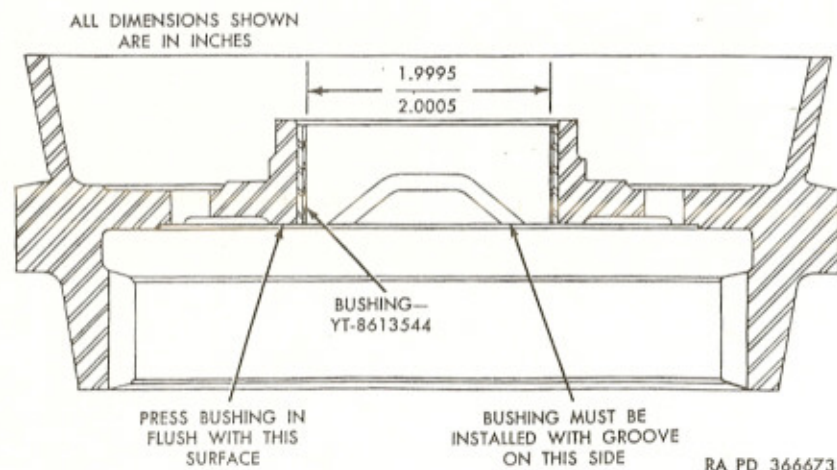

Figure 141. Sectional view of reverse internal gear and bushing.
- (5) *Reverse internal gear assembly (R)*.
- (b) Check bushing in gear hub for wear (par. 164) or damage. If necessary to replace bushing, press bushing out. Press new bushing into place and finish to dimension shown in figure 141. Be sure groove in bushing is toward gear teeth as shown (fig. 141).
- (6) *Reverse clutch stationary cone (R)*.
- (a) Check fit of reverse clutch stationary cone key (Q) in notches in reverse clutch stationary cone (R). If key or notches show evidence of wear or damage, replace with new parts.